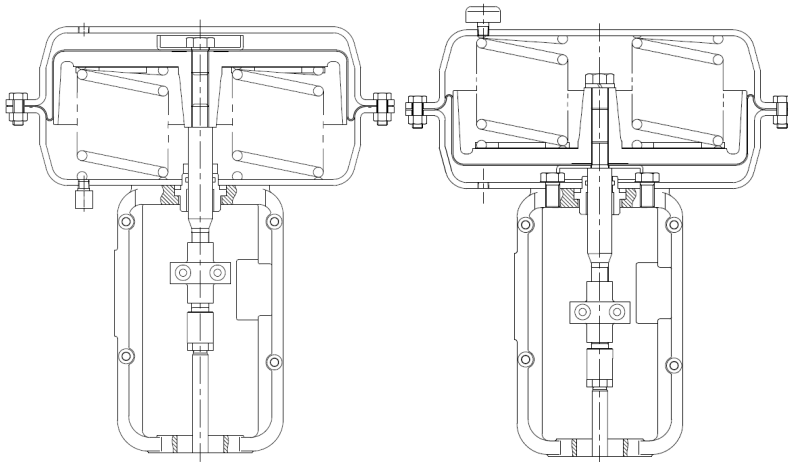

Fig. 5. Direct action (DA) type Fig.6. Reverse action (RA) type
When manual operation is finished, be sure to return the handle shaft to its specified position (within the distance between a point about 1 mm away from the edge of the elongate hole on the MO cover and the edge as shown in Fig. 5 and 6). If it is not returned to the specified position, rod stroke will be insufficient during automatic operation.
- For operating the valve in the automatic operation mode, be sure to return the handle to the specified position as shown in Fig. 5 and 6.
<ul style="list-style-type: none"> • The manual operation handle is set in the manual operation position. 	<ul style="list-style-type: none"> • Set the handle to the position shown in Fig. 5 or 6 in "Operation" section.